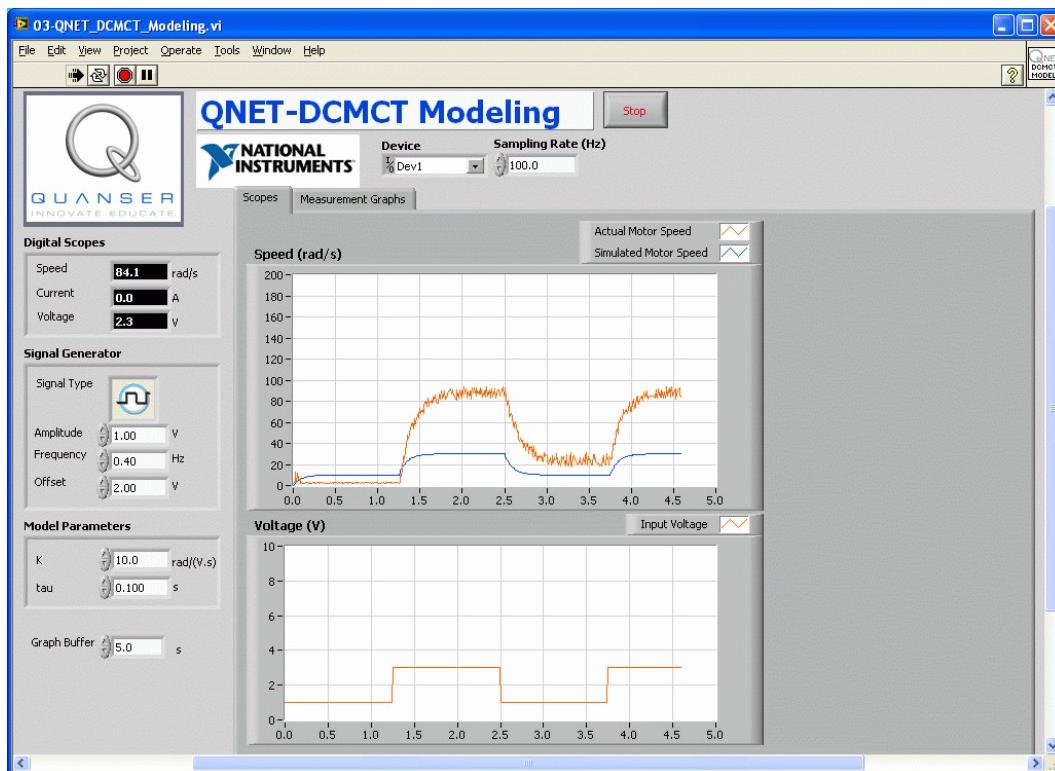
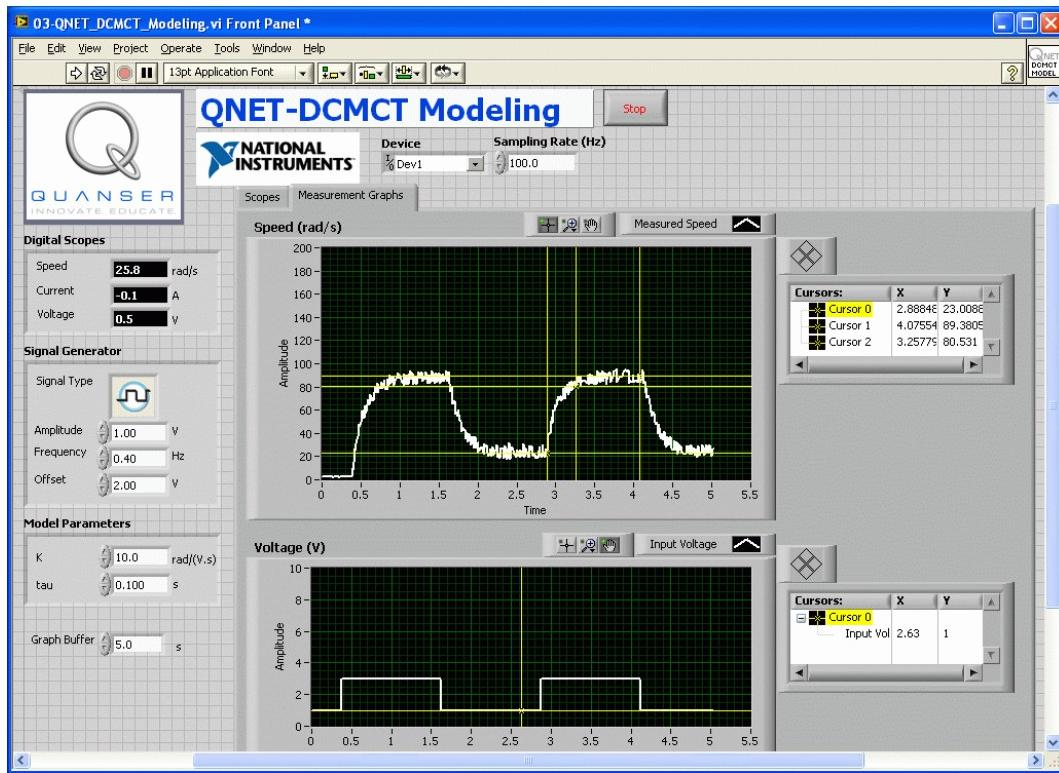

Figure 2.2: LabVIEW VI for modeling QNET DC motor
Figure 2.3: QNET DCMCT Modeling VI: sample response in Measurement Graphs
Applying a voltage to the DC motor and examining its angular rate is investigated in the laboratory. The model simulation is ran in parallel with the actual system to allow for model tuning and validation. The LabVIEW virtual instrument for modeling is shown in Figure 2.2. Figure 2.3 shows the graphs-view of the VI, which is used to take measurements.
2. Run the QNET_DCMCT_Modeling.vi. The DC motor should begin spinning and the scopes on the VI should appear similarly as shown in Figure 2.2.
5. Attach the responses in the *Speed (rad/s)* and *Voltage (V)* graphs. See the QNET VI LabVIEW Hints section in the QNET User Manual for information on how to export a chart or graph to the clipboard.
7. Use the responses in the *Speed (rad/s)* and *Voltage (V)* graphs to compute the steady-state gain of the DC motor. See Section 2.1.1 for details on how to find the steady-state gain from a step response. Finally, you can use the *Graph Palette* for zooming functions and the *Cursor Palette* to measure data. See the LabVIEW help for more information on these tools.